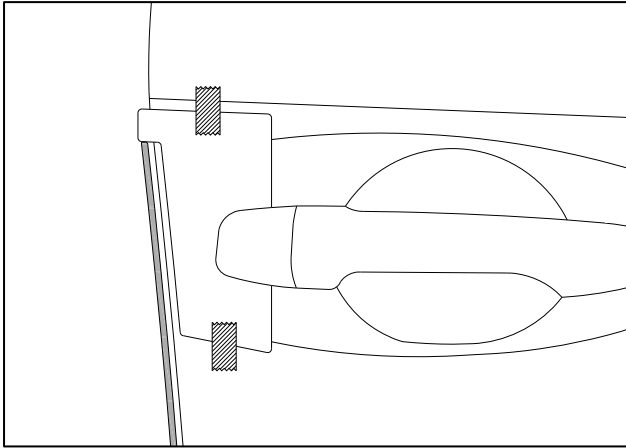

Fig. 1-10
- (m) Align top edge of DEG (labeled Front Passenger) with lower edge of template alignment notch as shown. **NOTE:** The bottom of the front passenger DEG has a small cutout relief located approximately 3 inches from the end. (Fig 1-10).